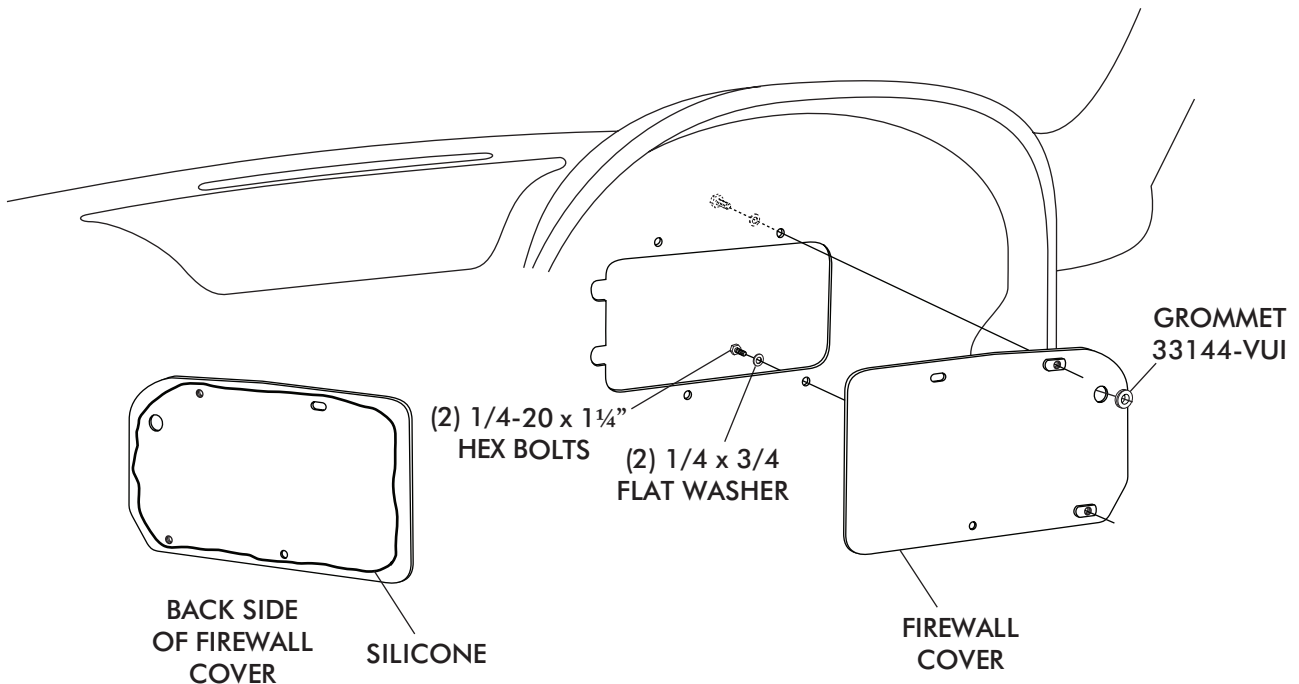

FIGURE 5
- APPLY A 1/4" BEAD OF SILICONE AROUND THE BACK SIDE OF THE FIREWALL COVER AS SHOWN IN FIGURE 5, BELOW.
- FROM INSIDE THE CAR, INSTALL FIREWALL COVER ON FIREWALL USING (2) 1/4-20 x 1 1/4" HEX BOLTS AND (2) FLAT WASHERS, SEE FIGURE 5, BELOW. (NOTE: USE SEAM SEALER TO FILL GAP BETWEEN COVER & LIP IN FIREWALL BEFORE PAINTING.)